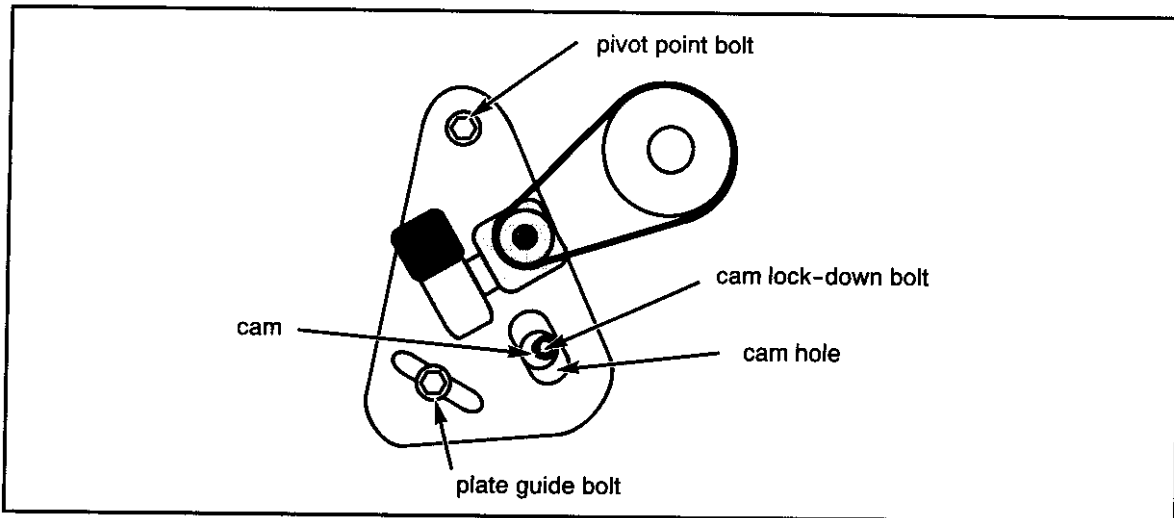

Figure 27. Azimuth Drive Belt Tension Plate.
- c. Loosen the three bolts on the azimuth drive belt tension plate (see Figure 27).